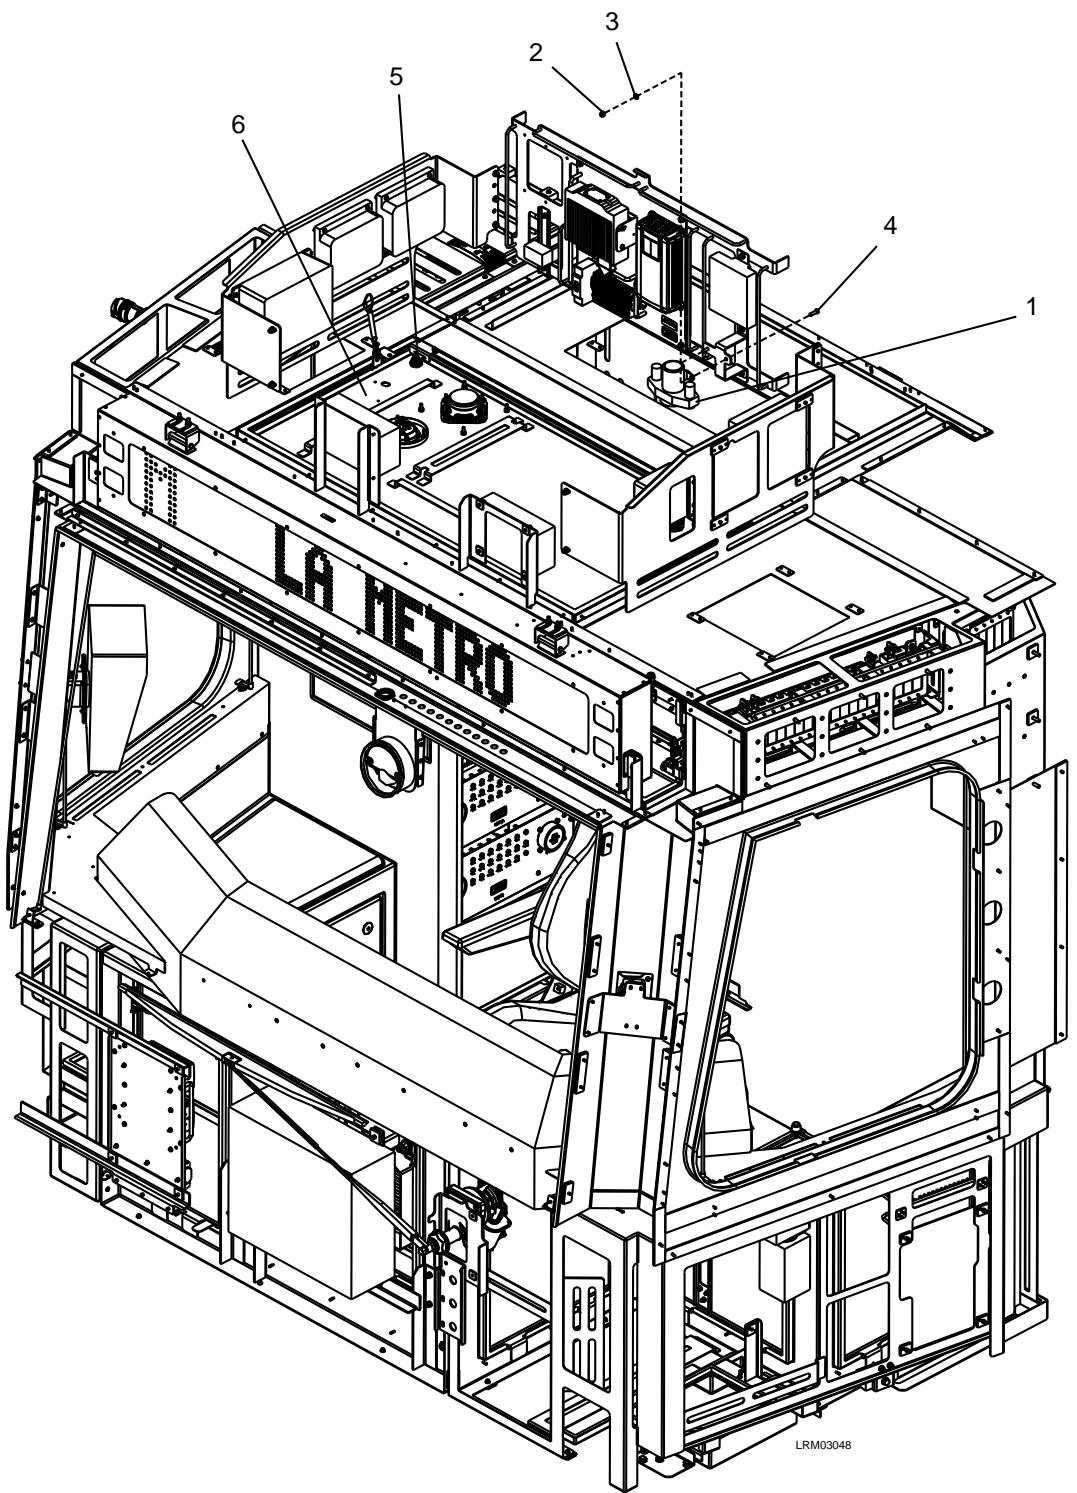

Figure 7-56: Local Bus Contactor
1. Unlock the two locks (5) and lower the cab ceiling panel (6) to access the Local Bus Contactor (1) and disconnect the #6 and 1/2-20 electrical connections. See Figure 7-56.
2. Remove the two M6 ESNA nuts (2), M6 plain washers (3), and M6 x 16 bolts (4).
3. Carefully remove the Local Bus Contactor (1).